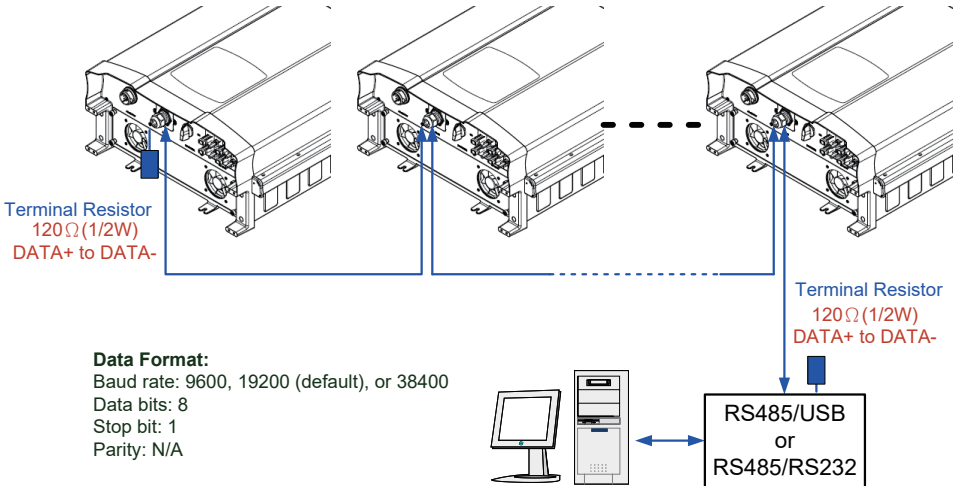

Figure 4-7 Multi-inverter connection illustration
- When multi-inverters in chain as shown in **Figure 4-7**, only the first and last inverter's terminal resistor must be switched ON.